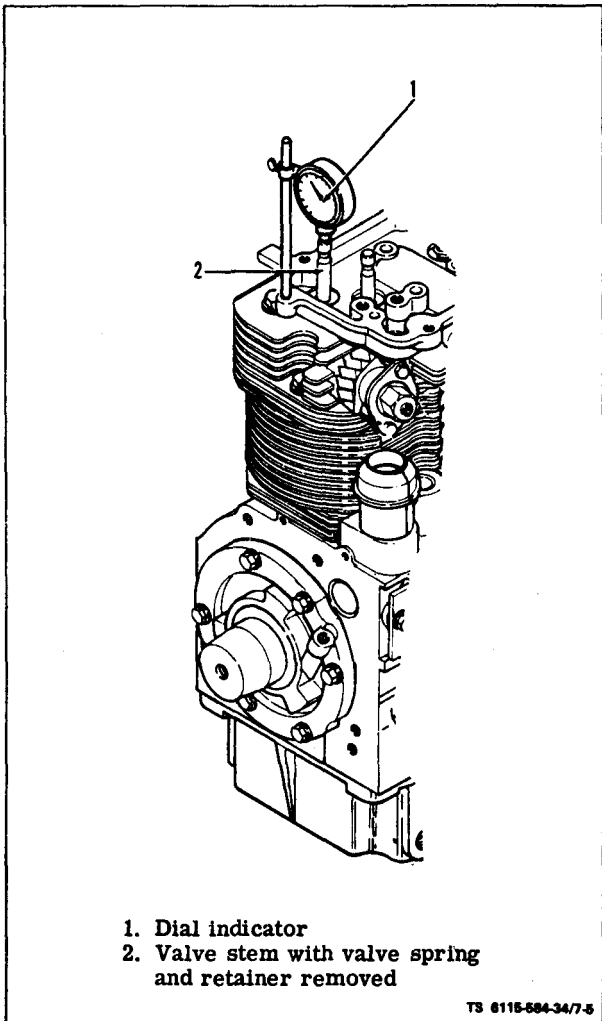

Figure 7-5. Measuring Top Dead Center
(3) The flywheel (1) is a tapered fit on the crankshaft (2). Remove flywheel mounting screw (3) and washer (4). Support and remove flywheel and ring gear assembly by using a two pronged wheel puller inserted through the slots provided in the flywheel.
b. Clean and Inspect. Clean the flywheel and ring gear assembly (1) using solvent. Check the ring gear for broken or worn teeth.
c. Install. Replacement flywheels are supplied with timing marks already stamped in place. The engine must still be timed properly to this timing mark. The only accurate method of determining the port closing point is to measure piston travel. This is a critical measurement and should be done only with accurate, dependable equipment. Mount flywheel keying properly and tighten in place using screw (3) and washer (4), (figure 7-3). With the flywheel mounted, rotate flywheel counterclockwise until Number 1 cylinder is on its compression stroke, which follows the closing of its intake valve. Remove the exhaust rocker arm (3, figure 7-9), exhaust valve rotator (1, figure 7-11), valve looks (2), spring retainer (3) and spring (5), using fabricated tool (see figure 7-10). Allow exhaust valve to drop down onto top of piston. Rotate flywheel counterclockwise until piston is at Top Dead Center. This can be measured on top of exhaust valve stem with a dial indicator (see figure 7-5).